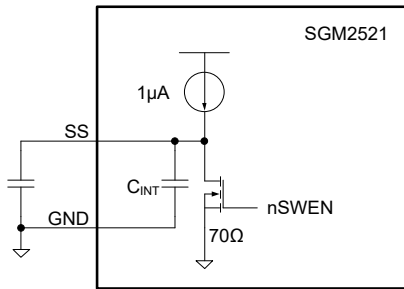

Figure 3. Output Ramp Up Time  $t_{dVdT}$  is Set by  $C_{dVdT}$
SGM2521/2 are designed to control the in-rush current upon insertion of a card into a live backplane or other "hot" power source. This limits the voltage sag on the backplane's supply voltage and prevents unintended resets of the system power. A slew rate controlled start-up (SS) also helps to eliminate conductive and radiated interference. An external capacitor from the SS pin to GND defines the slew rate of the output voltage at power-on (as shown in Figure 3). The equation governing slew rate at start-up is shown in Equation 1: